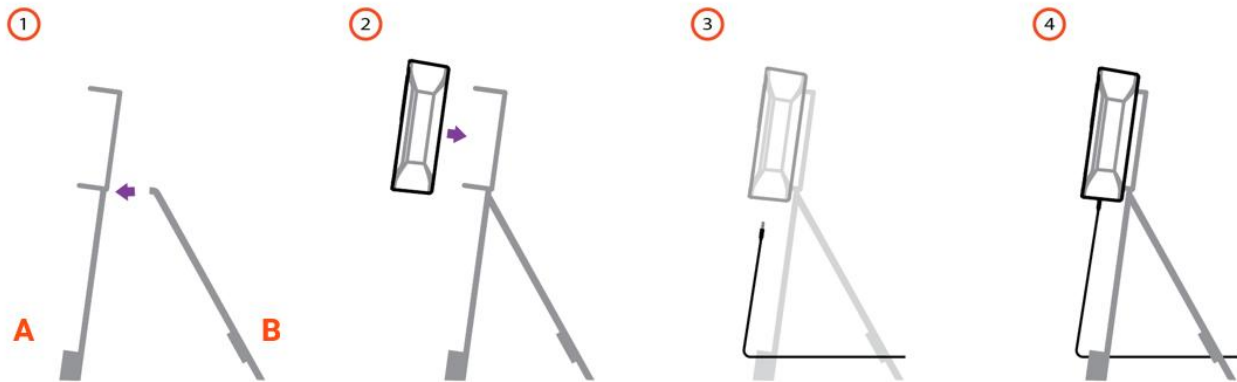

Figure 26 - Tripod installation instructions
1. Fasten Part A of the tripod assembly (See Figure 26) to the ceiling through the countersunk hole using an appropriate screw.
- 12.2.1 Place the EVK on the tripod as instructed in Figure 26.